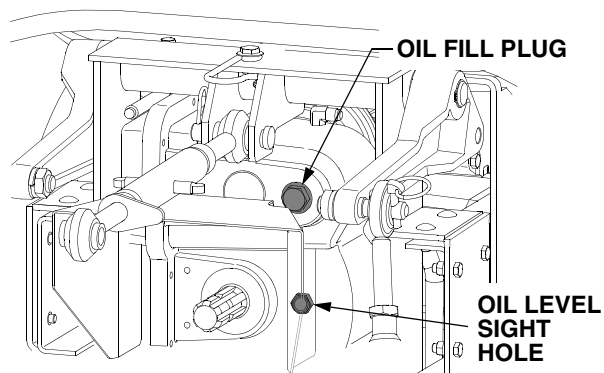
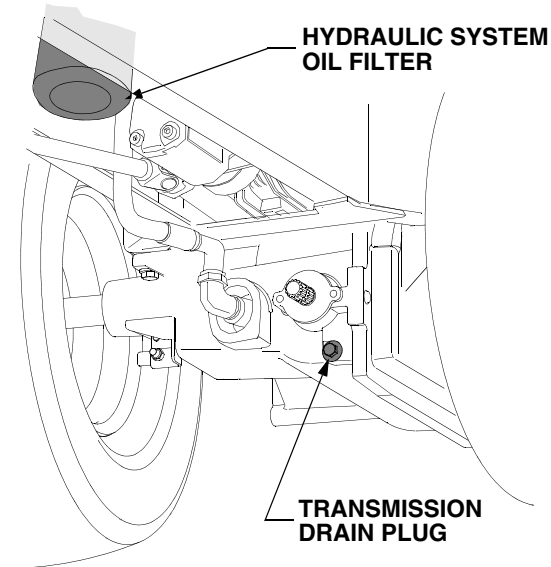

Figure 43
Figure 45
The oil level sight glass is located in the rear of the transmission housing, just to the right of the rear PTO shaft. Refer to Figure 43.
- Locate the oil fill plug on the upper right of the rear of the transmission housing. Refer to Figure 43.
- The hydraulic system oil filter is remotely mounted in the vertical position between the tractor frame rails. Refer to Figure 45.
- Position a suitable container below the hydraulic system filter. See Figure 45.
- Clean the area around the transmission fill plug to prevent debris from entering the transmission (Refer to Figure 43) and remove the plug.
- Clean the area around the transmission drain plug and the oil fill plug to prevent debris from entering the transmission. Refer to Figure 43 and Figure 45.
- Remove the oil fill plug to help vent the transmission, then remove the drain plug and allow the transmission oil to drain into the container(s). Reinstall the drain plug after draining the oil. Refer to Figure 43 and Figure 45.